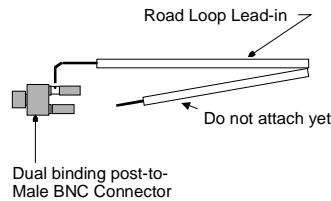

Figure 24 Attaching Road Loop wire to the post-to-BNC connector
Step 6: Insert the end of the Road Loop wire at the ATU into one side of a binding post-to-BNC connector (Figure 24). Tighten the binding post terminal to secure the lead.